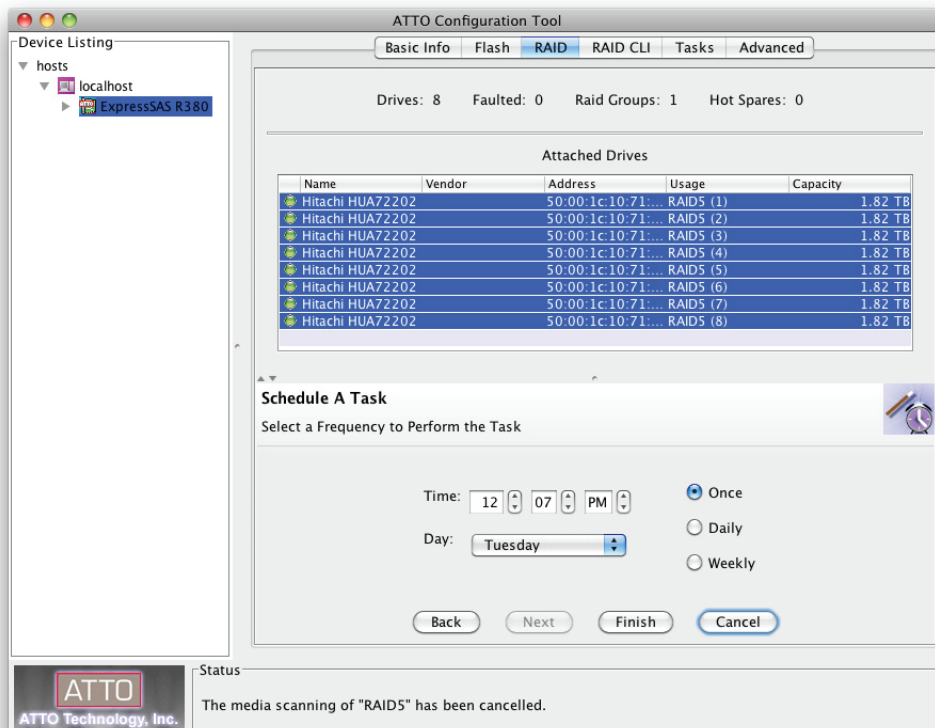

Figure 25
4. Select the time and frequency schedule for the task to be performed. See **Figure 25** on page 31.